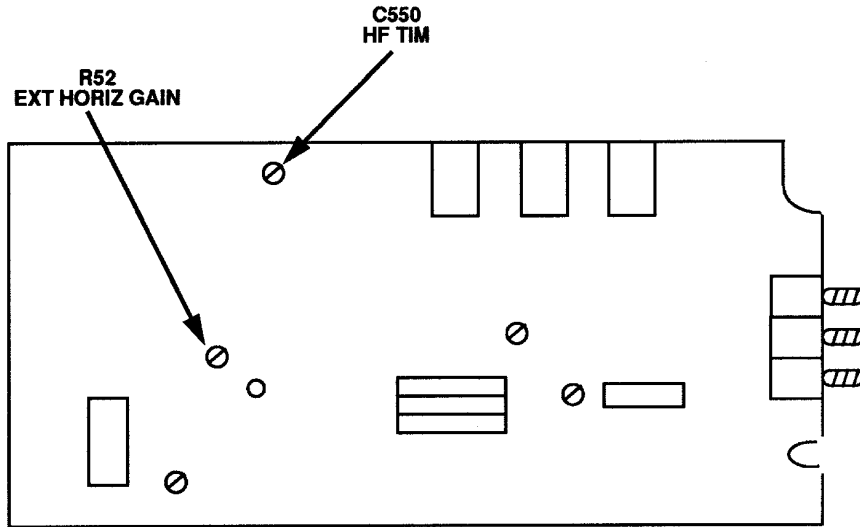

Figure 1. Tektronix, Type 51342 A board - left-side view.
²Adjust **C550 HF TIM** (fig. 1) for best compromise if out-of-tolerance conditions exist between .5, .1, and .2 μs positions.
(1) On oscilloscope calibrator rotate knob located below **EDIT FIELD** pushbutton to adjust **MARKER** output for 0.0% indication on **err** display. Adjust R52 EXT HORIZ GAIN (fig. 1) for a 10 division horizontal deflection on oscilloscope (R).
(4) On oscilloscope calibrator rotate knob located below **EDIT FIELD** pushbutton to adjust for 0.0% indication on **err** display. Adjust C550 HF TIM (fig. 1) to align one time marker per division (R).